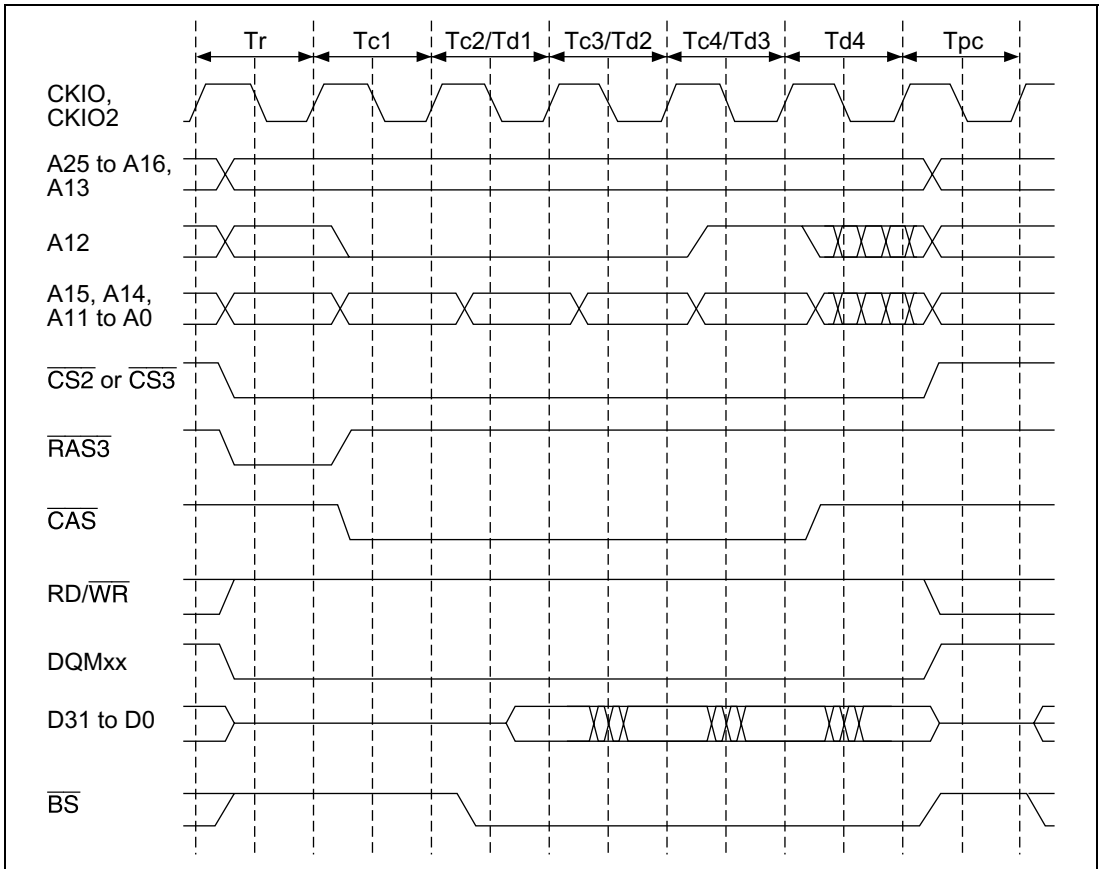

**Figure 12.13 Basic Timing for Synchronous DRAM Burst Read**
**Burst Read:** In the example in figure 12.13 it is assumed that four  $2\text{M} \times 8\text{-bit}$  synchronous DRAMs are connected and a 32-bit data width is used, and the burst length is 1. Following the  $T_r$  cycle in which ACTV command output is performed, a READ command is issued in the  $T_{c1}$ ,  $T_{c2}$ , and  $T_{c3}$  cycles, and a READA command in the  $T_{c4}$  cycle, and the read data is accepted on the rising edge of the external command clock (CKIO) from cycle  $T_{d1}$  to cycle  $T_{d4}$ . The  $T_{pc}$  cycle is used to wait for completion of auto-precharge based on the READA command inside the synchronous DRAM; no new access command can be issued to the same bank during this cycle, but access to synchronous DRAM for another area is possible. In this LSI, the number of  $T_{pc}$  cycles is determined by the TPC bit specification in MCR, and commands cannot be issued for the same synchronous DRAM during this interval.